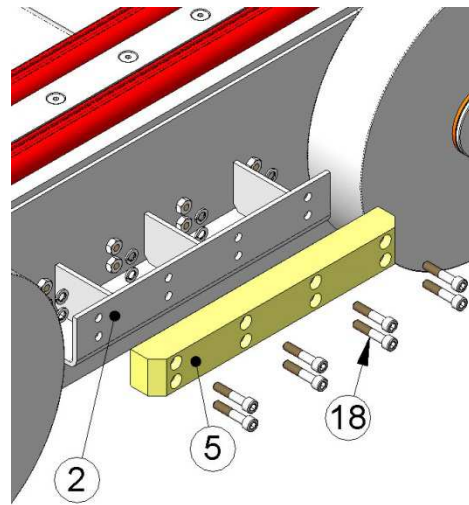

fig. 14
**Note:** The numbers in brackets refer to fig. 14.